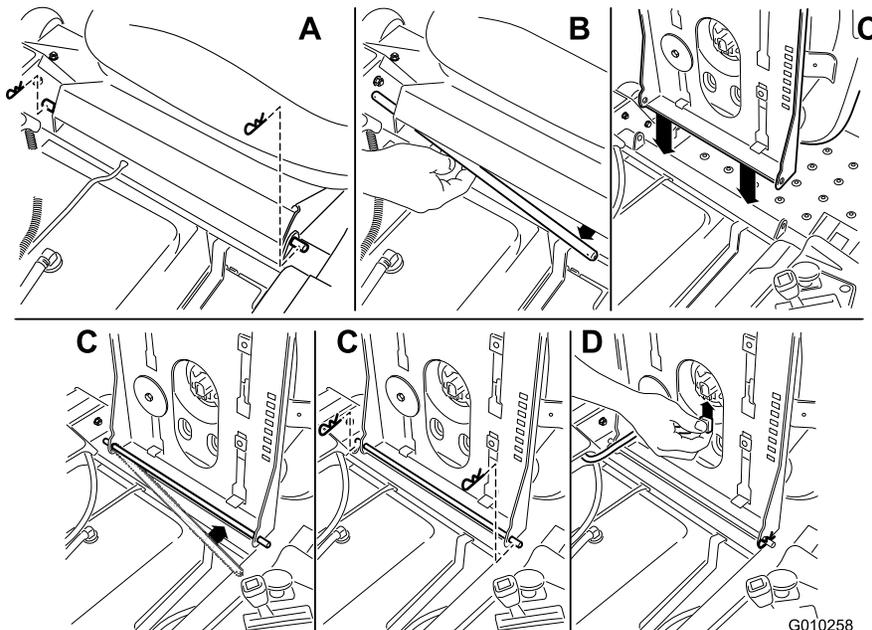

Figure 3
3. Setup the seat as follows (Figure 3):